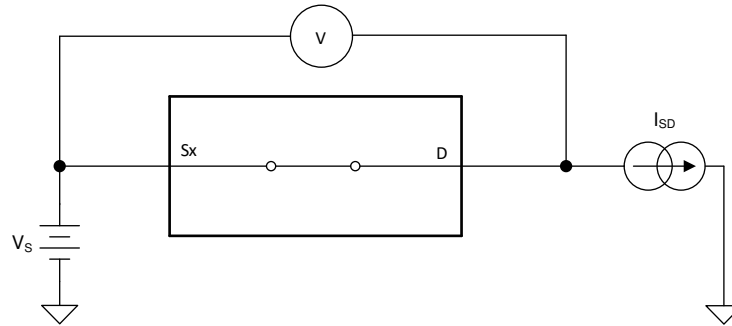

图 8-1. On-Resistance Measurement Setup
The on-resistance of a device is the ohmic resistance between the source (Sx) and drain (D) pins of the device. The on-resistance varies with input voltage and supply voltage. The symbol R_{ON} is used to denote on-resistance. The measurement setup used to measure R_{ON} is shown in the following figure. 图 8-1 shows how the R_{ON} is computed with $R_{ON} = V / I_{SD}$, and the voltage (V) and current (I_{SD}) are measured using this setup.